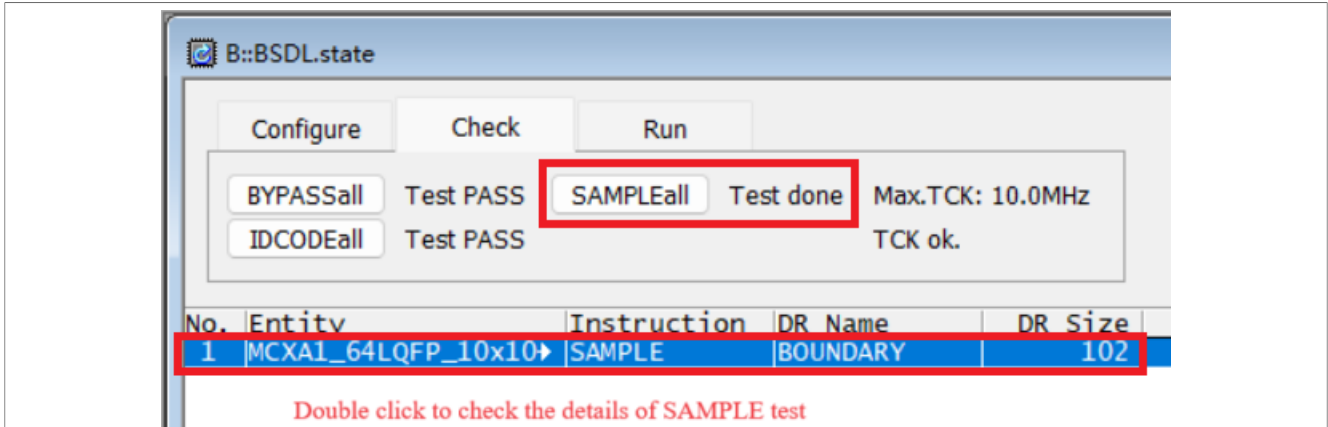
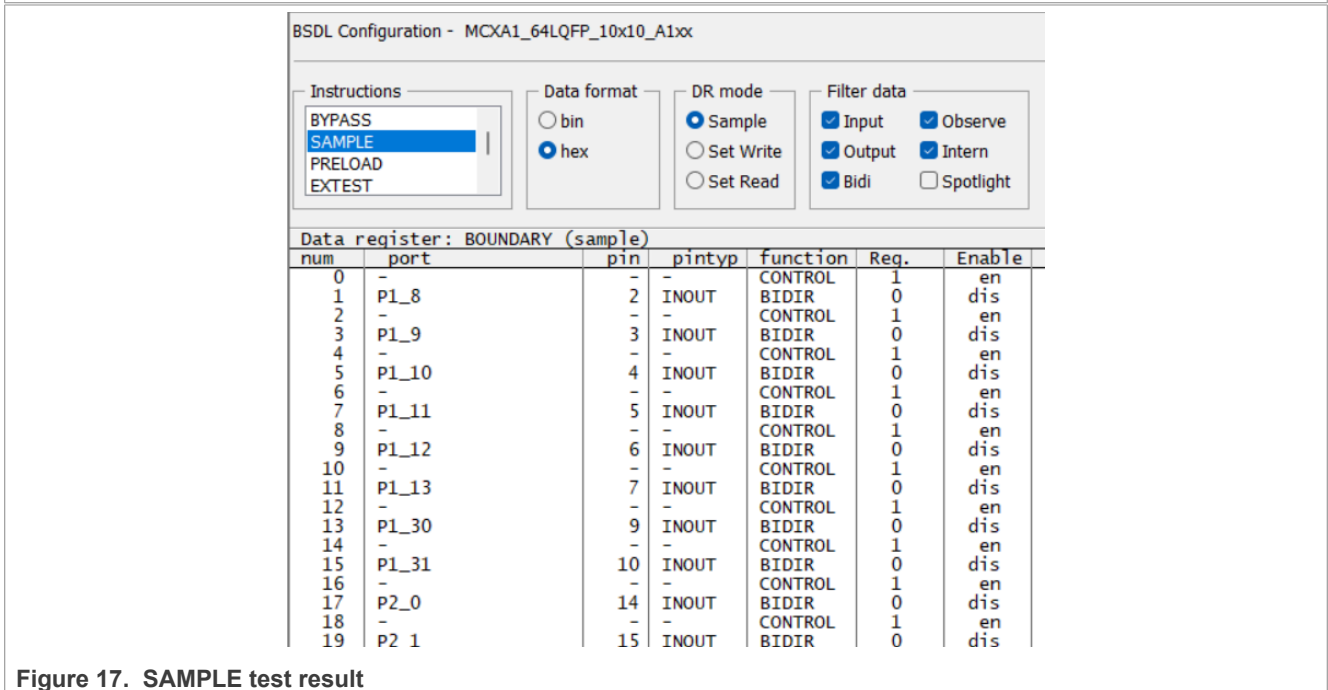

Figure 16. Check SAMPLE
Figure 17. SAMPLE test result
8. After clicking the **SAMPLEall** button, **No result** becomes **Test done**. Double-click the entity name as shown in Figure 16, the SAMPLE test result can be seen in the BSD.L.SET window as shown in Figure 17.